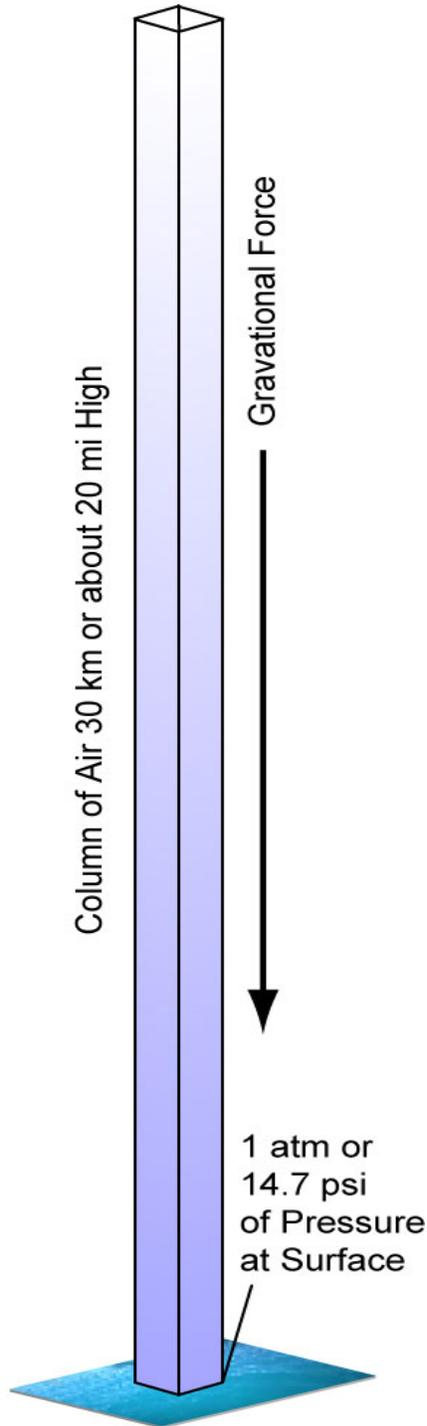

Figure 4: Atmospheric Pressure
- Atmospheric Pressure - Pressure caused by the weight of the atmosphere. At sea level it has a mean value of one atmosphere (1 atm) but reduces with increasing altitude. See Figure 4.